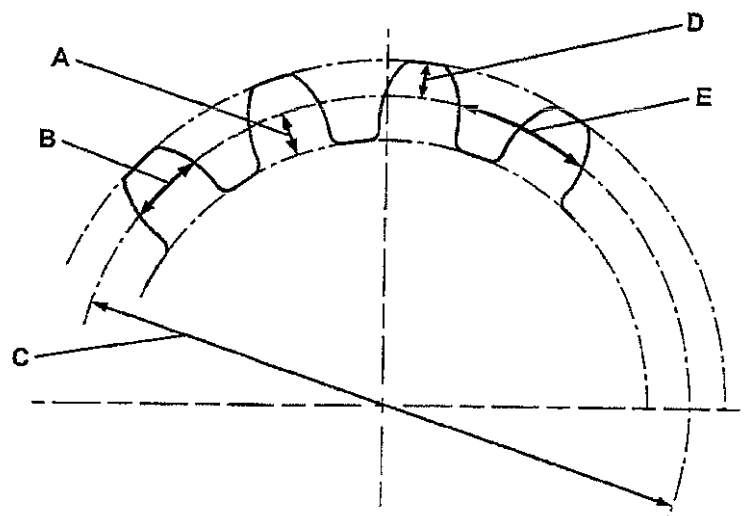

FIGURE 1
- 1.3 Refer to FIGURE 1 of a section of a gear and label the different parts (A- E) (5)